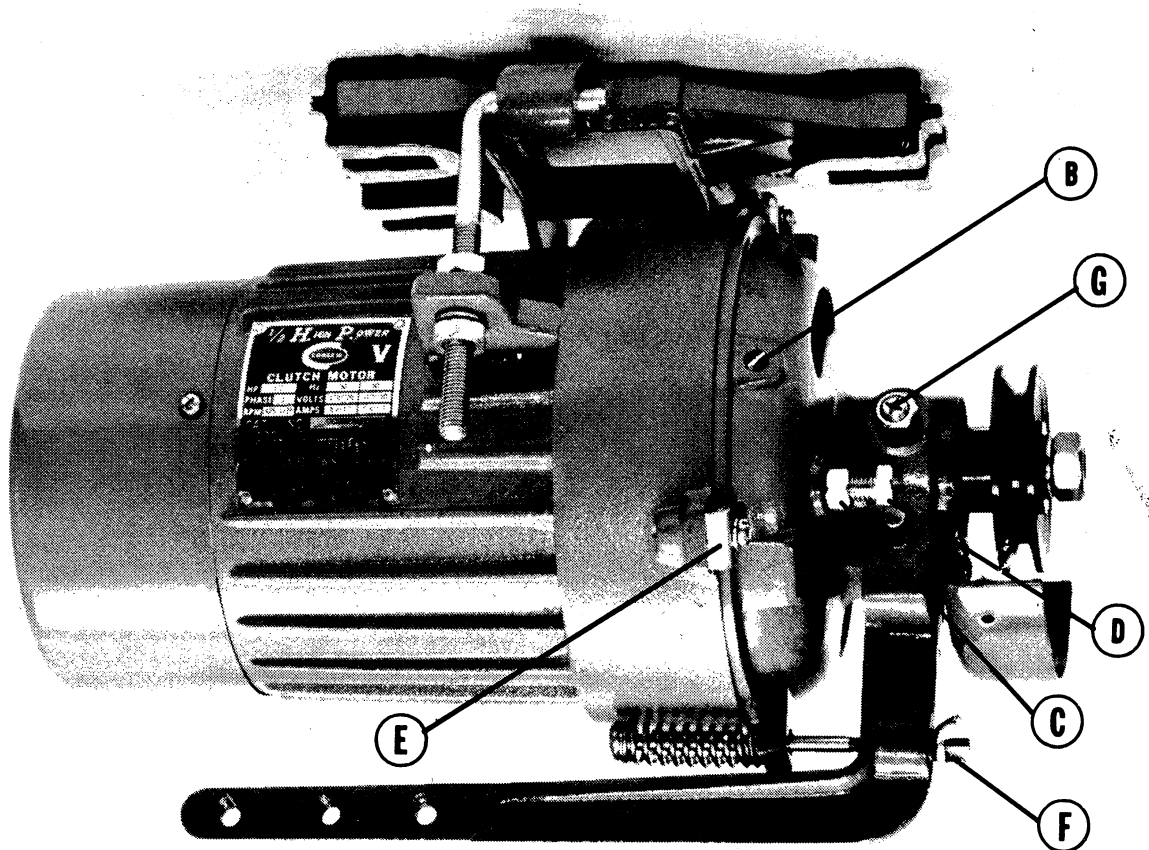

Fig. 28
To adjust clutch and brake, first loosen set screw (B, Fig. 28) about 2 turns, then loosen lock nut (C) and turn head of adjustment bolt (D) clockwise one half turn at a time; then test for results by pressing down the clutch lever. Tighten lock nut (C) and set screw (B) upon completing clutch and brake adjustment. *NOTE:* Do not turn in bolt (D) so far that there is no more clutch action, as this may jam both clutch and motor, causing damage to the motor in particular. Movement of the clutch lever at its very end should be *no less than*  $\frac{1}{4}$ ".
2. Note and mark position of treadle pitman rod and treadle and loosen the clamp, tying together the two component lengths of the treadle pitman rod. Unscrew from clutch motor housing three clamps (E, Fig. 28). This will permit clutch portion to become separated from motor. Before separating them, mark the position of the clutch portion with a scratch mark on both the motor housing and the clutch portion.
4. Replace the clutch head, the three clamps (E) with their screws and the treadle pitman, employing the reverse of the procedure outlined in paragraphs 1 and 2. Make certain clutch portion and motor are lined up according to the scratch marks made per paragraph 2.
3. (a) Loosen wing nut (F, Fig. 28) as much as possible without unscrewing it altogether and remove two driver bolts (G) from forked end of lever. Pull out clutch plate with its sleeve and shaft.